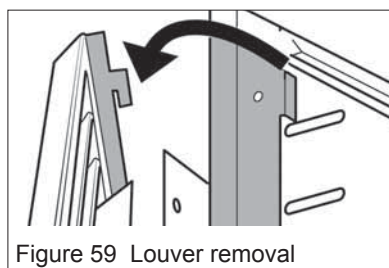

Figure 59 Louver removal
- Lift and unhook the top louver. See figure 59.
- Open the bottom louver—it does not need to be removed. See figure 59.